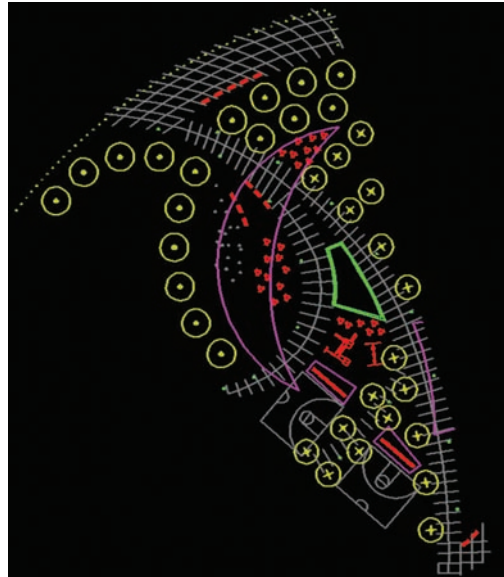

Fig. 16-6: AutoCAD blocks representing the site elements, furnishings, and vegetation. This is the second file imported into SketchUp.
- ▶ AutoCAD blocks that define individual objects, site elements, and vegetation (Fig. 16-6).
- ▶ The second file contains the AutoCAD Blocks (Fig. 16-6).